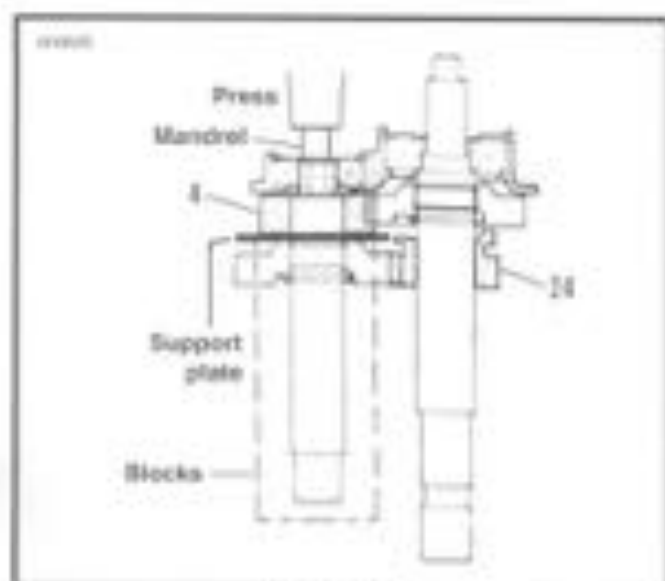

Figure 6-33.
8. See Figure 6-33. Place COUNTERSHAFT GEAR SUPPORT PLATE (Part No. HD-37404) under countershaft 4th gear (4). Place assembly on press with suitable metal blocks under the support plate. Place a socket or mandrol, smaller than inside diameter of bearing, and press countershaft free of access cover. Slide mainshaft 1st gear (24) off mainshaft.